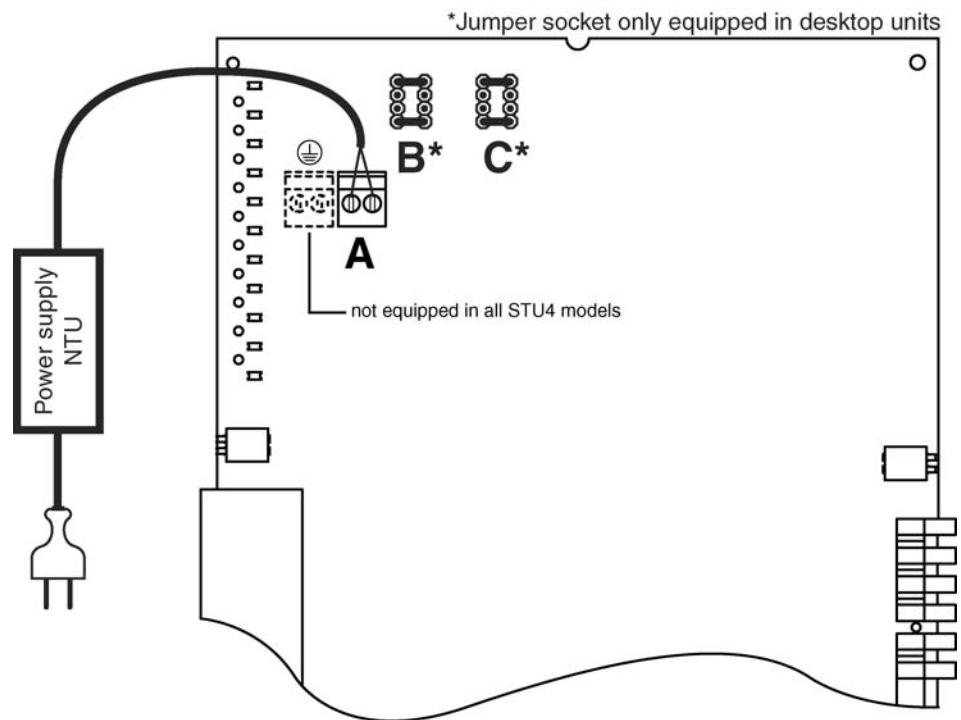

Fig. 2.159 Jumper settings: Desktop unit supplied redundantly with the desktop power adapter NTU
6. Set the jumpers according to Chapter 2.12.6, Fig. 2.159 to remote supply (additional jumpers are included with desktop unit NTU)